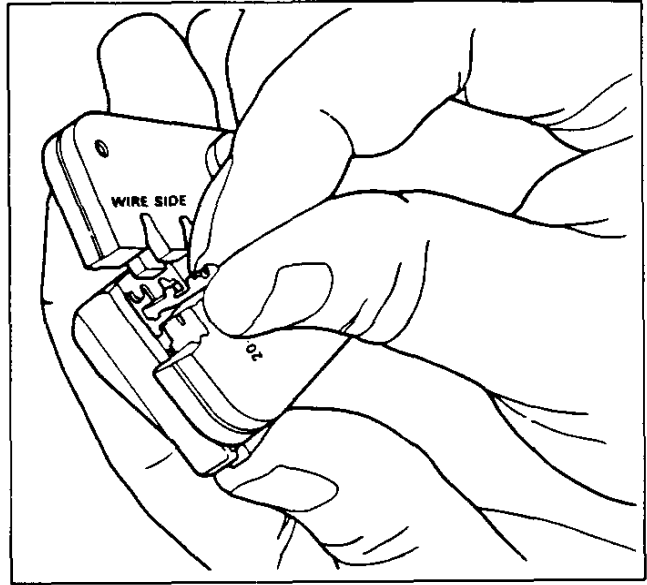

Figure 37
4. Push the terminal holder to the open position and insert the terminal until the wire attaching portion of the terminal rests on the 20-22 anvil. Be sure the wire core wings and the insulation wings of the terminal are pointing towards the upper jaw of the crimping tool (Fig. 37).